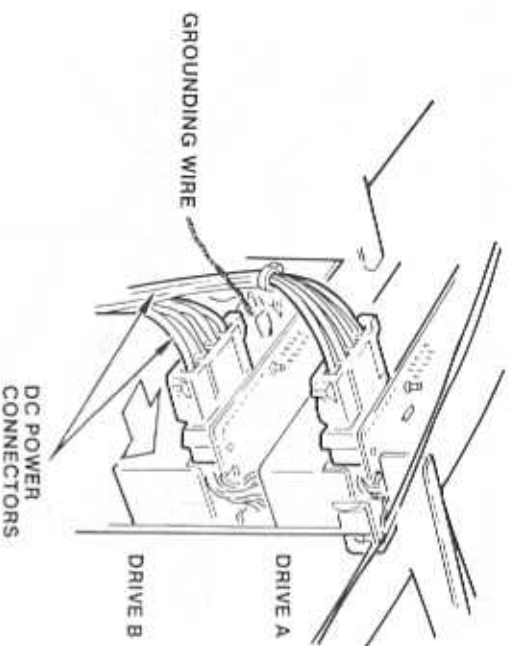

Figure 11-13. Diskette Power and Ground Connection
3. A number of multicolored 4-wire connectors come out of the power supply. Attach any available connector to the power connection on drive B (Figure 11-13). The power connector will only attach one way.
5. Attach the green grounding wire by pushing it onto its tab on drive B (Figure 11-13).